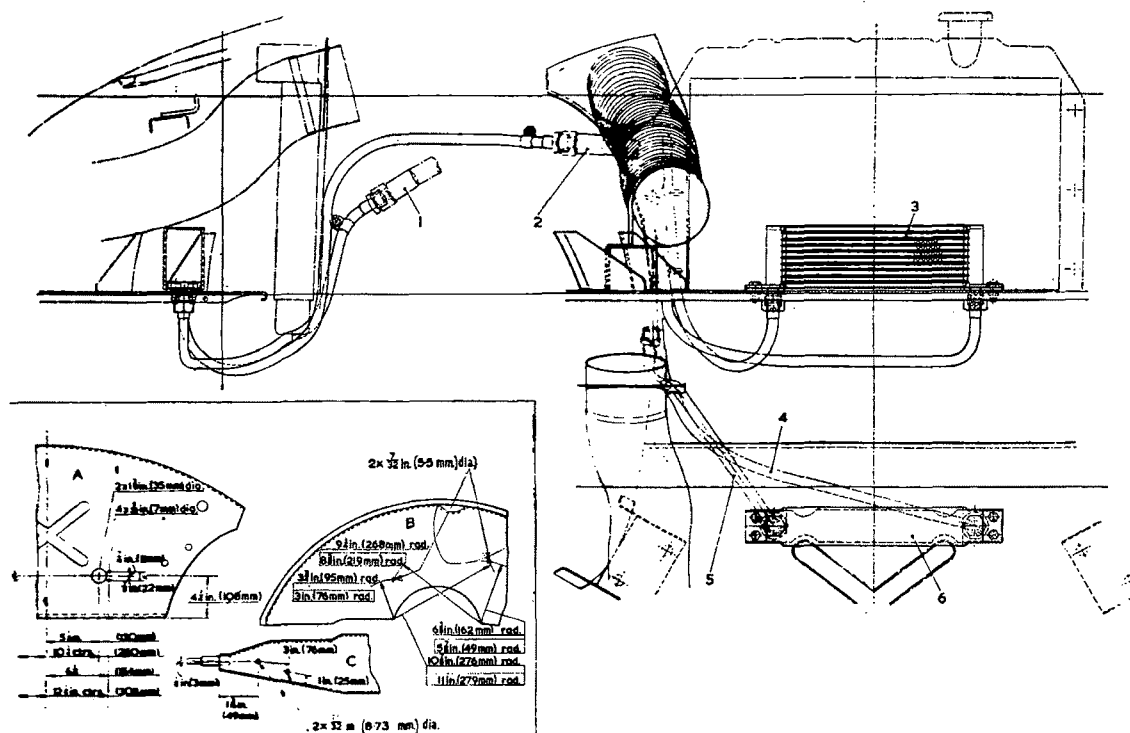

Fig. A.13
each front suspension member for repositioning the horns as shown in Fig. A.13 (c).
- (6) Mark out and drill four $\frac{3}{32}$ in. (7.14 mm.) holes and cut two $1\frac{3}{8}$ in. (34.9 mm.) holes in the radiator duct panel to accept the oil cooler (Fig. A.13 [a]).
- (7) Mark out and drill two $\frac{3}{16}$ in. (5.5 mm.) holes in the front off-side wheel arch for the fitting of the oil cooler pipe clips (Fig. A.13 [b]).
- (8) Fit the packing-piece and oil cooler to the radiator duct panel and secure it with the four $\frac{1}{2}$ in. UNF. hexagon-headed screws, washers, and Aerotight nuts.
- (9) Fit the two oil pipes to the cooler and secure the pipes to the wheel arch with the two clips, No. 10 UNF. screws, plain washers, spring washers, and nuts provided.
- (10) Fit the two flexible pipes to the oil cooler pipes and then connect them to the oil filter and crankcase as shown in Fig. A.13.
- (11) Refit, connect, and test the horns, replace the radiator grille and case, and refit the front road wheel. Remove the supports and jack.
- (12) Add $\frac{3}{4}$ pint (-42 litre) of oil to the sump, run the engine, and check all pipe unions for leakage.